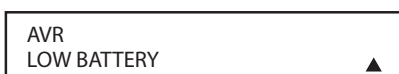

Figure 153.
- When the batteries approach a level below which the remote control will not function, the remote's LCD screen will display a **LOW BATTERY** warning as shown in **Figure 153**. We strongly recommend replacing the batteries as soon as this message appears, to avoid the loss of programming and configuration settings. These settings are not lost when the batteries are changed quickly.